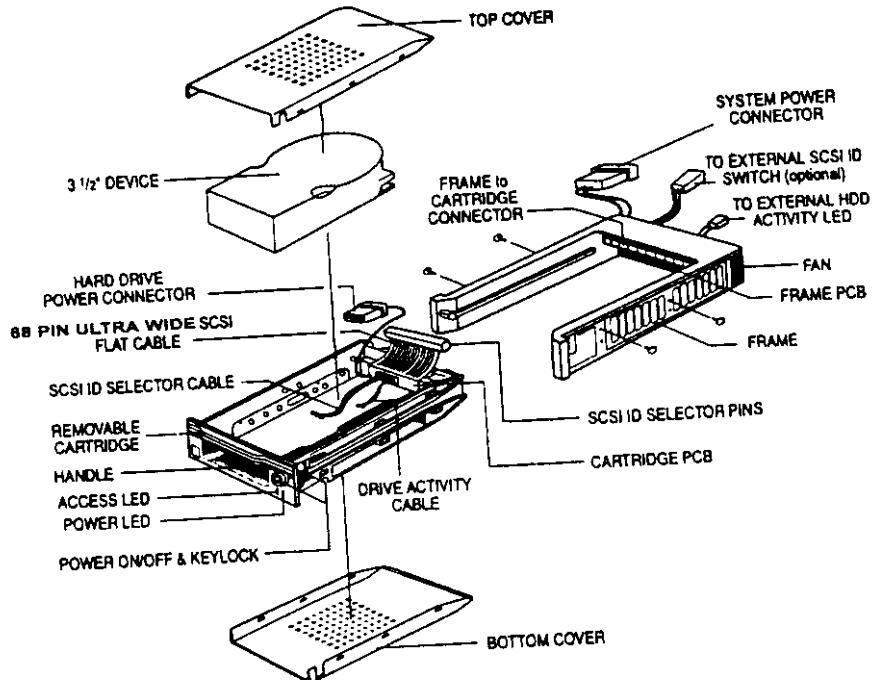

Figure 1.2 Mobile Rack Explosion of Parts
2. Pull the top canister out of the rack by giving it a light tug. See Figure 1.2 for an explosion of the Mobil Rack.